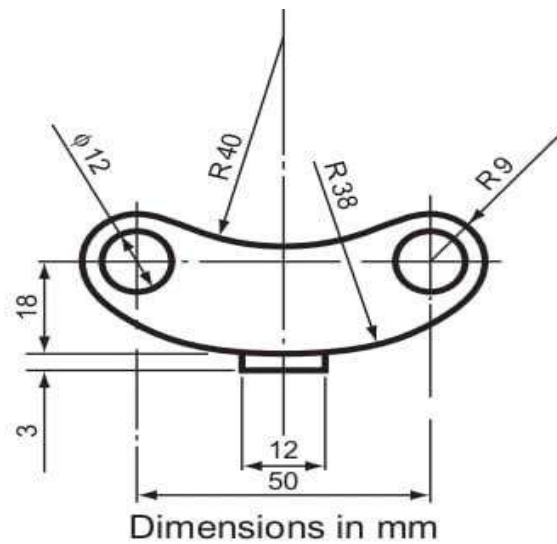

Figure 6 Turning handle
c) Figure 6 below is an elevation of the turning handle of a can opener. Draw this view. Twice-full size, showing clearly the method of establishing the centers of the arcs. (6 Marks)